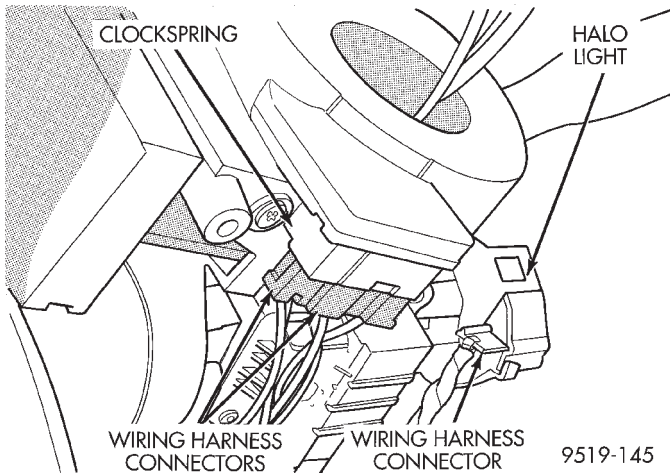

Fig. 16 Wiring Harness Connection To Clock Spring And Halo Light
(22) Remove the 2 wiring harness connectors from the clockspring (Fig. 16). Then remove wiring harness connector from lock housing halo light (Fig. 16).
(8) Install clockspring on switch housing. Install the 2 wiring harness connectors on the clockspring (Fig. 16). Then install wiring harness connector on lock housing halo light (Fig. 16).